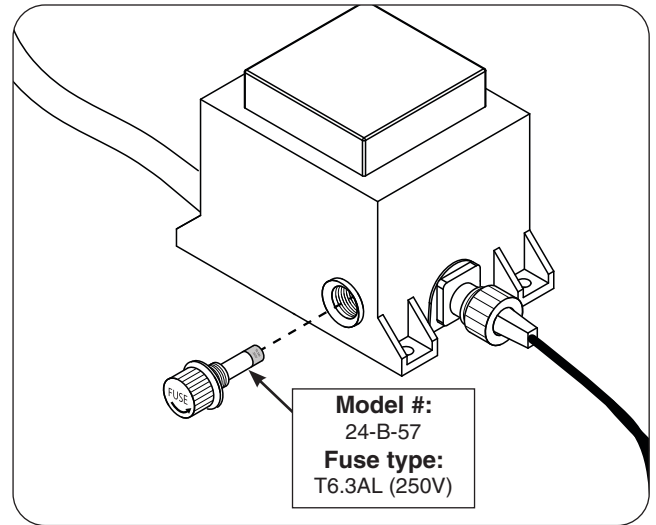

Fig. 31-1 Replace fuse
3. Locate the fuse holder on the power supply box (see Fig. 31-1).